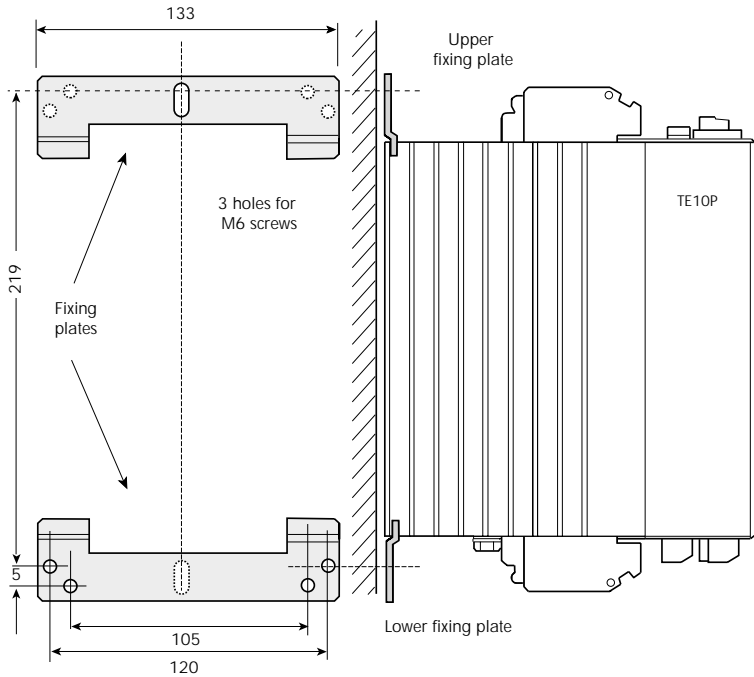

Figure 2-4 Drilling dimensions (mm) for bulkhead mounting
- Drill three M6 screw holes following the dimensions given in Figure 2-4